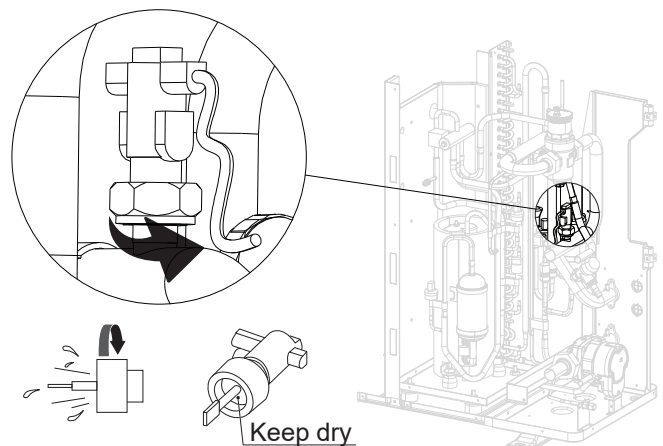

Figure 4-3: Flow switch in the heat pump
2. Ensure there is no water remaining in the flow switch. Refer to Figure 4-3.